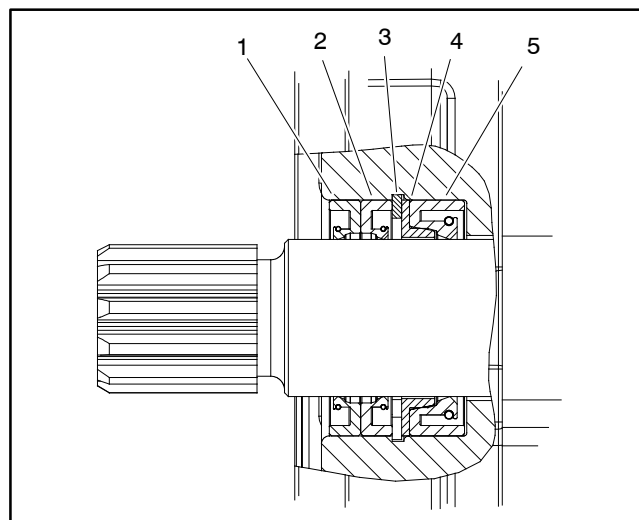

Figure 88
11. Carefully remove dust seals, retaining ring, flange washer and shaft seal from the front flange (Fig. 88). Discard removed seals.
2. Install new seals into front flange (Fig. 88):